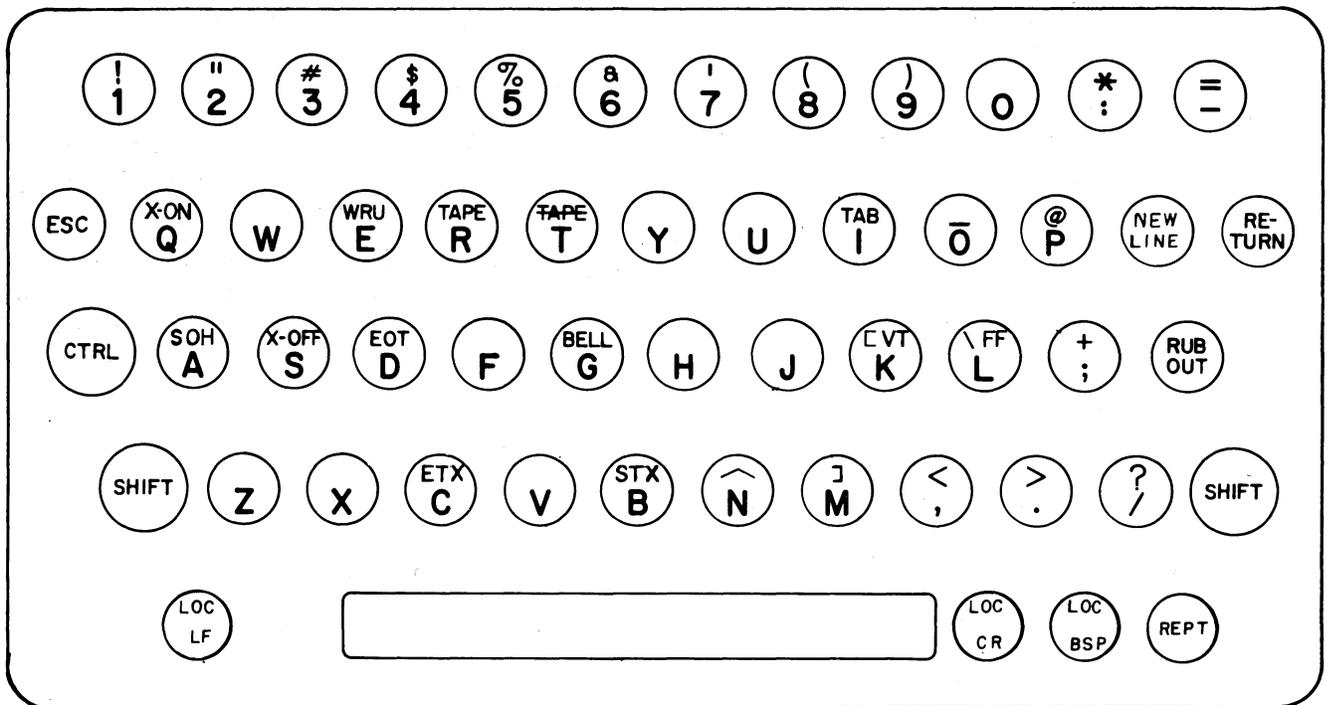

Figure 4 - 35 Teletypewriter Keyboard Arrangement
3.10 The keyboard arrangement for the 35 KSR and ASR stations is shown in Figure 4. This arrangement is an adaptation of existing 35 keyboards. The adaptation consists in replacing the LINE FEED keytop and its associated parts with the NEW LINE keytop and associated parts.